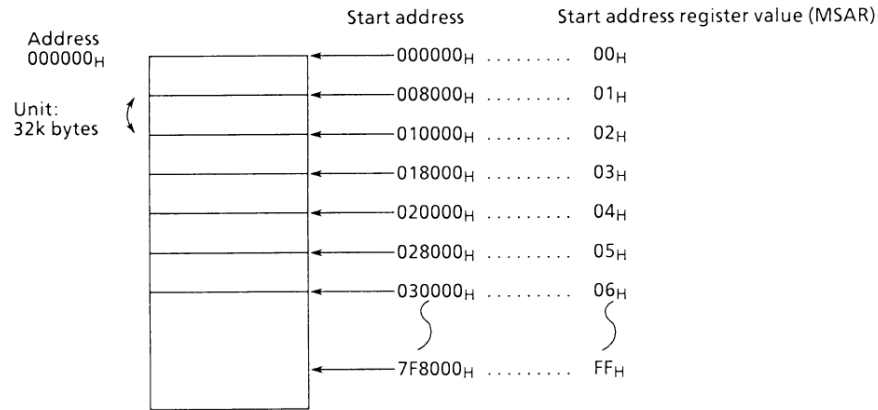

Figure 3.12 (10). Start Address Setting Locations
As can be seen from the address decoder block diagram (Fig. 3.12 (9)), the address area that can output CS is specified depending on whether or not the A14 - A21 address values are compared.